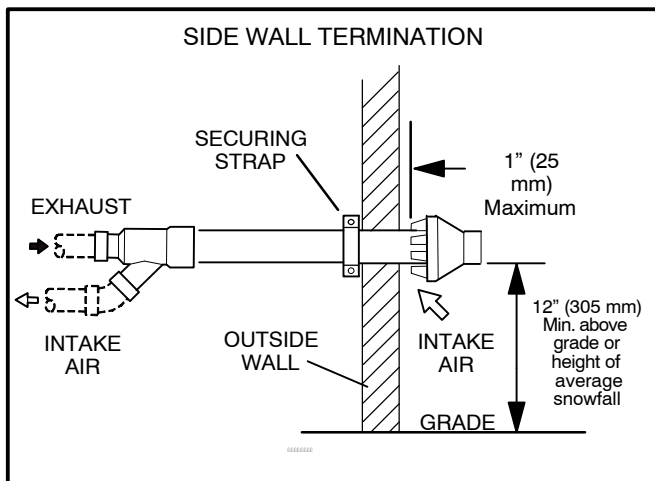

FIGURE 5
- 4 – Run 3-inch (76 mm) pipe through the wall opening. Use a sheet metal strap to secure the termination to the structure as shown in figure 5.